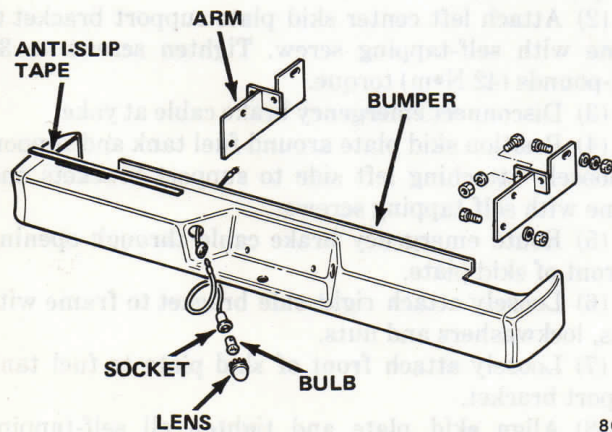

Fig. 18-1 Rear Step Bumper
(2) With bumper on floor and ends upward, attach mounting brackets (fig. 18-1) to bumper. Install flat washers adjacent to all slots.
(3) Clamp bumper to floor jack. Raise bumper and align holes in mounting brackets with holes in vehicle frame.
(4) Install bolts, flat washers, lockwashers and nuts. Do not tighten.
(5) Level and align bumper so that 1/2 inch clearance exists between vehicle body and bumper.
(6) Tighten all nuts.